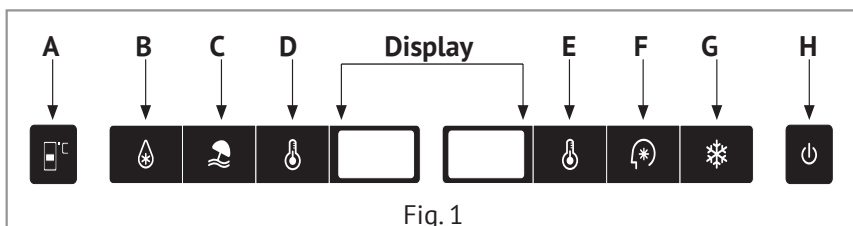

Fig. 1
To help in times of service or cleaning, the appliance has a forced defrost mode which can be activated by touching and holding sensors A and C in Fig. 1 for approximately 3 seconds. The refrigerator temperature adjustment sensor (A) will flash to confirm that the forced defrost function is active. This function should automatically deactivate once the freezer temperature has reached between 10 and 12°C.